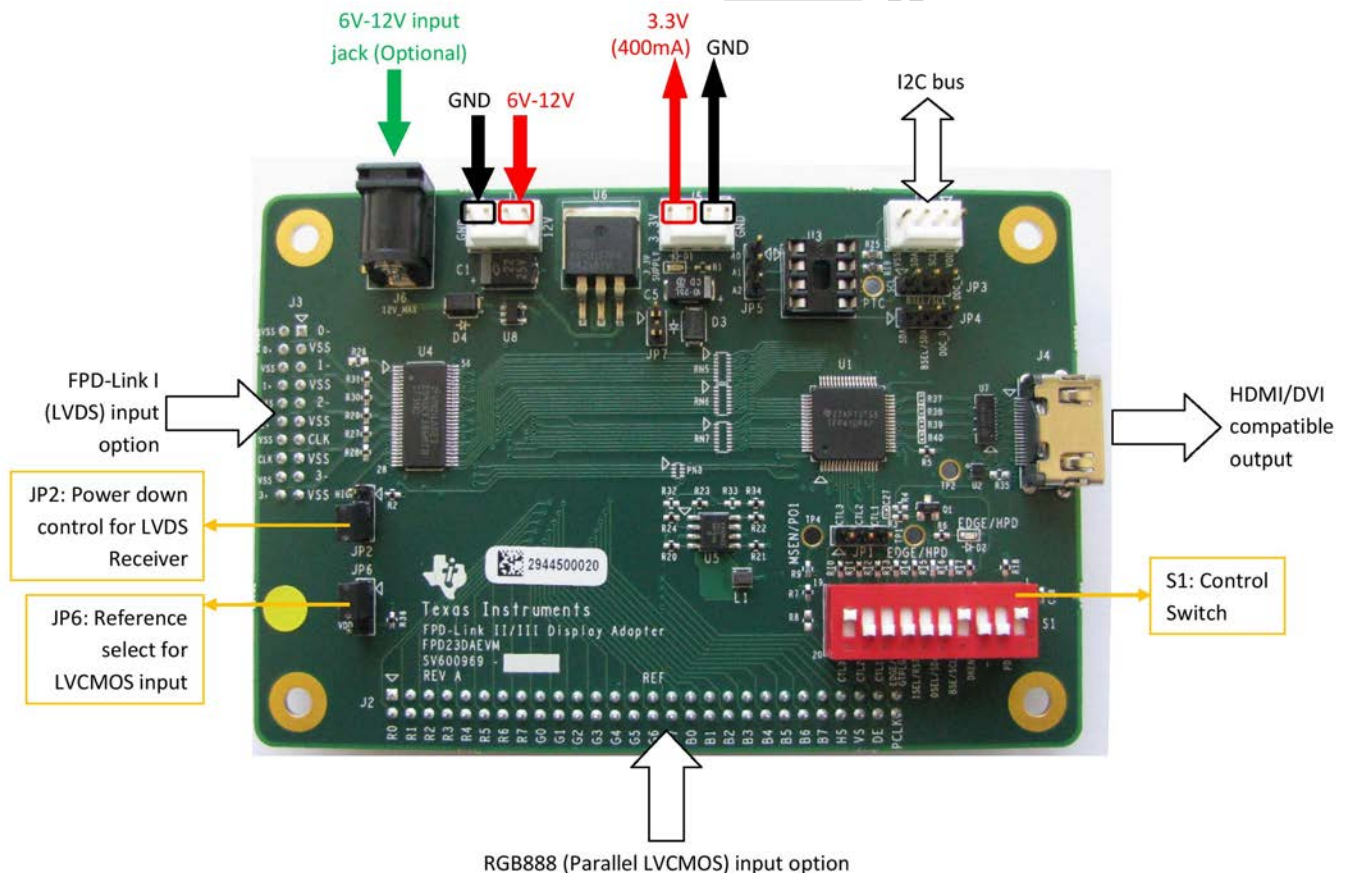

Figure 1-1. FPD-Link II/III Display Adapter
3. Connect 12V power supply to either J6 or J1 as shown in Figure 1-1. LED D1 (green) indicates that the board is correctly powered up and 3.3V(200mA) supply is available at J5.